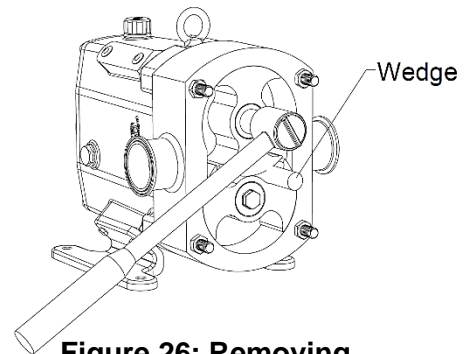

Figure 26: Removing Rotor Nuts
2) Remove the rotor bolts using the appropriate size wrench and a non-metallic wedge to keep the rotors from moving (Figure 26). Remove the rotor bolt o-ring and lock washers.